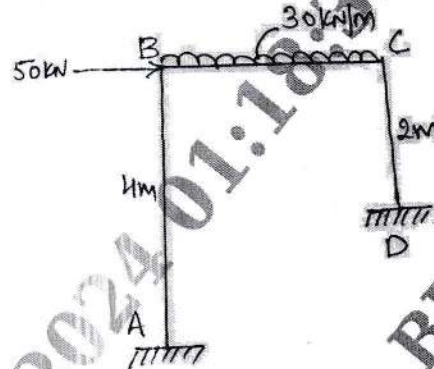

Fig.Q8
- 8 Analyse the frame shown in Fig.Q8 by flexibility matrix method. Draw SFD and BMD.